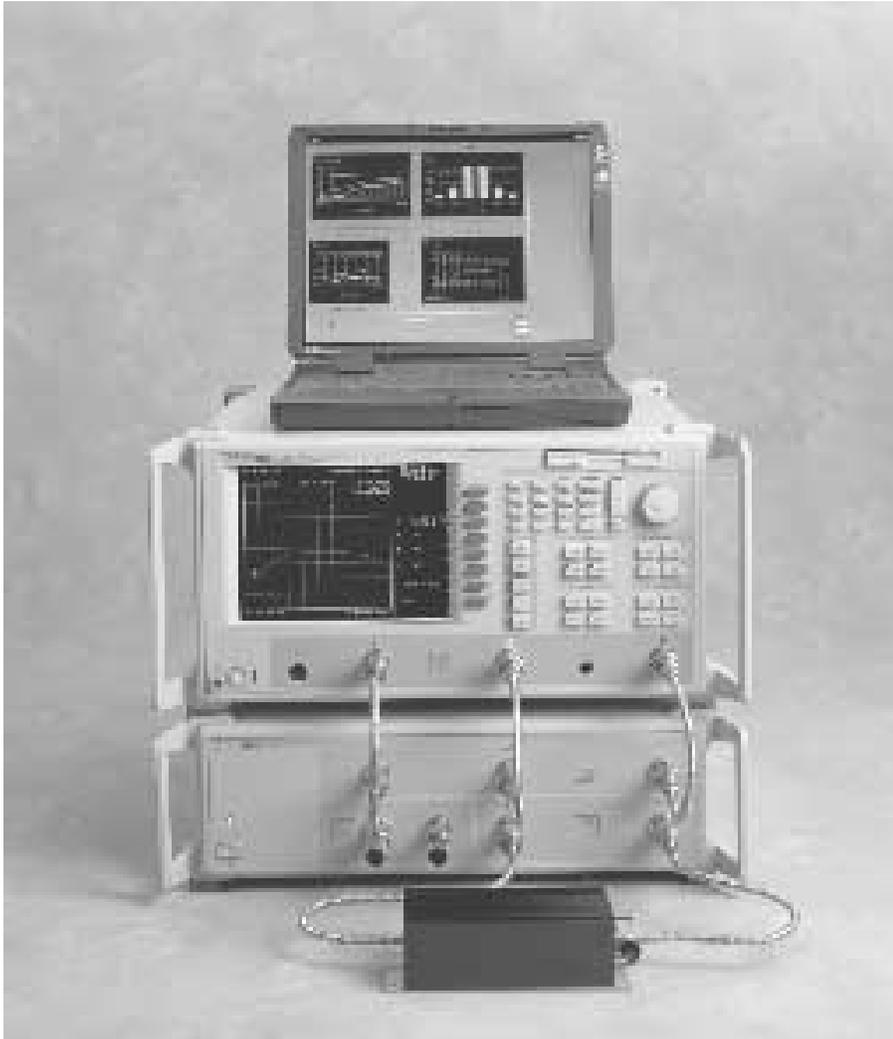

Figure 1-1. Model ME7840A Power Amplifier Test System (PATS)
This manual provides operating and maintenance information for the ME7840A Power Amplifier Test System (PATS, Figure 1-1). The following topics are discussed:
The ME7840A hardware (Figure 1-1) consists of a MS462XC, Direct Receiver Access (DRA) Scorpion, a MS4782X Test Set, a customer supplied Personal Computer (PC), and an optional current probe (refer to Chapter 2, Figure 2-4). The MS462XC is available in two frequency ranges: 10 MHz to 3 GHz or 10 MHz to 6 GHz.